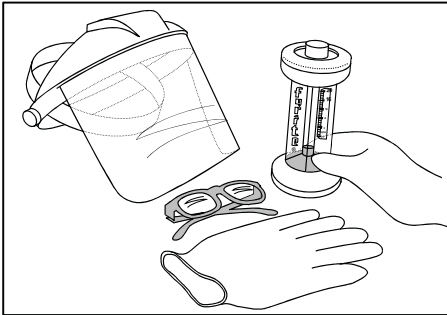

Figure 1a. Protective equipment required before attempting gas analysis.
Review Figures 1a, 1b, 1c and 1d on this page. Make certain to follow the steps outlined below and read the fluid handling precautions for your personal safety.
- 1) Always use protective equipment such as safety goggles, gloves, and protective clothing as illustrated in Figure 1a.